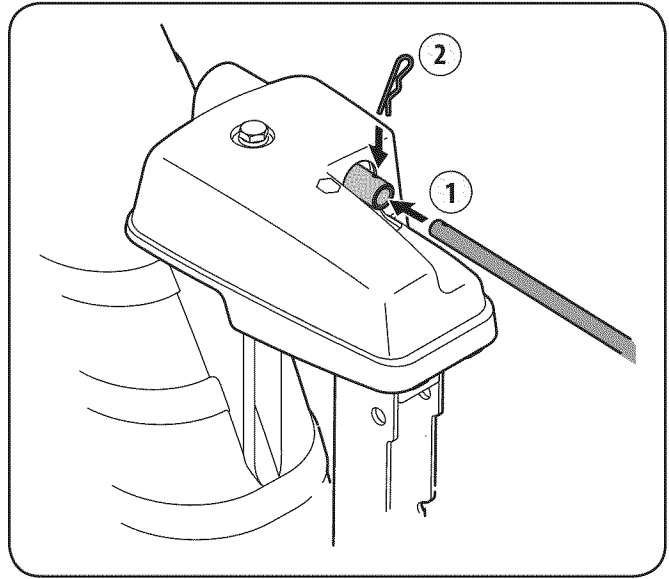

Figure 3-6
6. Secure the chute directional control rod to the chute control assembly with the hairpin clip removed earlier. See Fig 3-6.